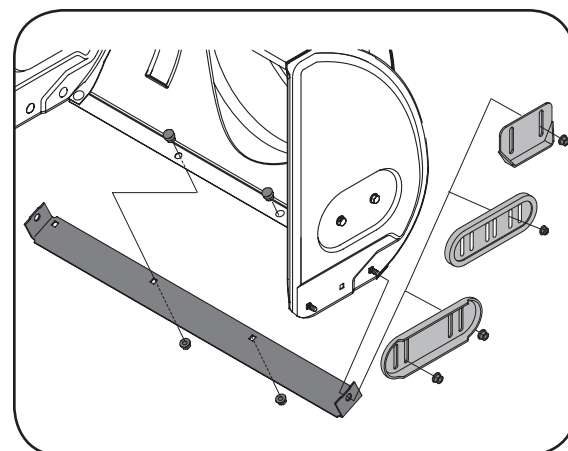

Figure 6-3
2. Reassemble new skid shoes with the four carriage bolts (two on each side) and hex flange nuts. Refer to Figure 6-3.